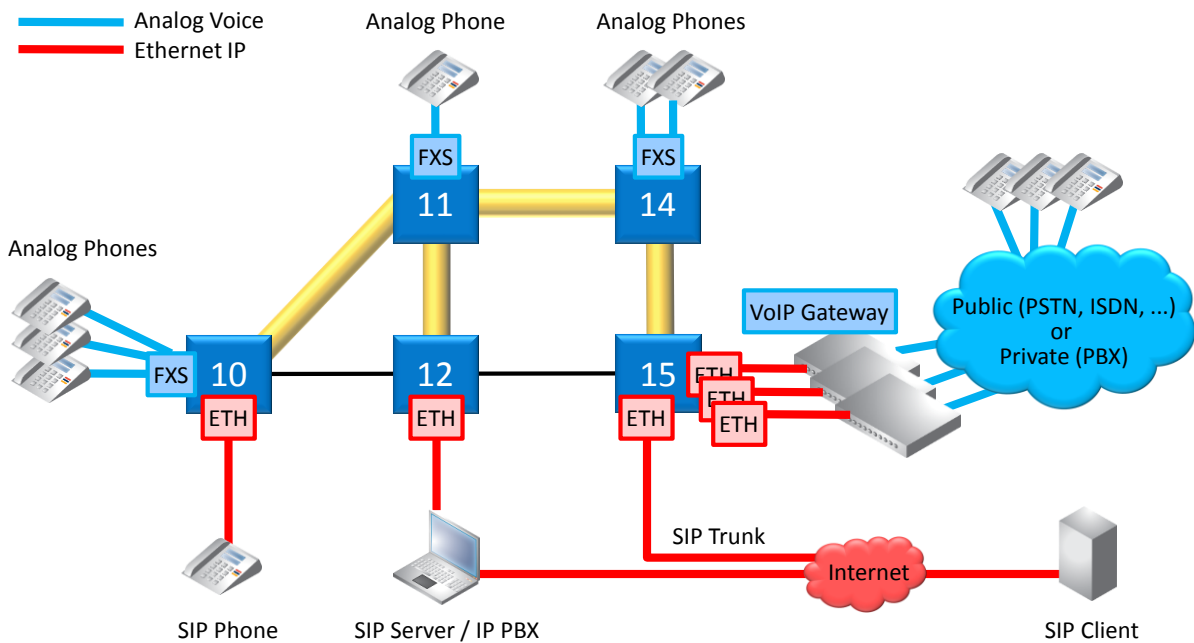

Figure 134 Voice Service Elements Overview
- ▶ See Figure 134: connections between FXS ↔ VoIP Gateway (=FXO Gateway);
- ▶ See Figure 134: SIP elements like a SIP Phone and VoIP gateways can be registered on and handled by the SIP Server;